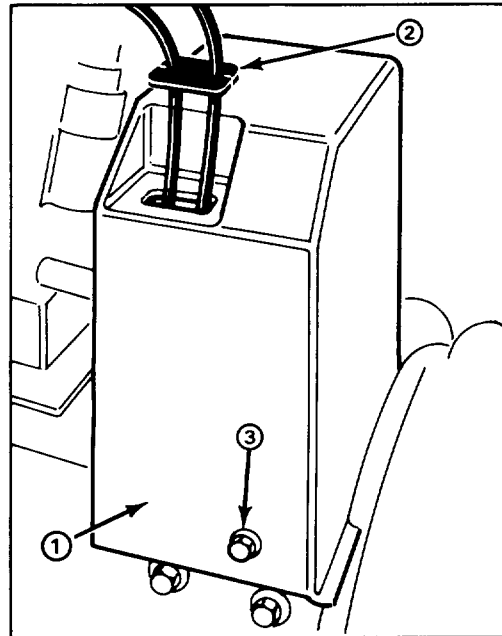

Figure 25
1. Remove (3) flange head capscrews securing belt cover to engine frame and slide belt cover up cables (Fig. 25).